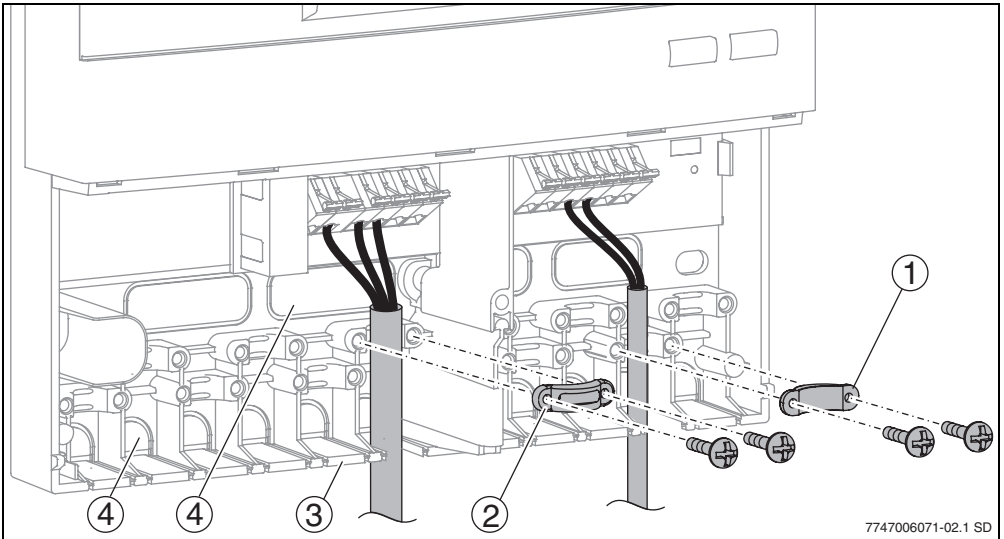

Fig. 5 Entering and securing cables
Depending on the mounting situation, the cables can enter the housing from behind (→ Fig. 5, no. 4) or from below (→ Fig. 5, no. 3).
- ▶ Use a knife to cut open the cable entry (→ Fig. 5) without leaving any sharp edges.
- ▶ Secure the cable using the corresponding strain relief clamp (→ Fig. 5, no. 2). The strain relief clamp can also be fitted in the reverse position (→ Fig. 5, no. 1).